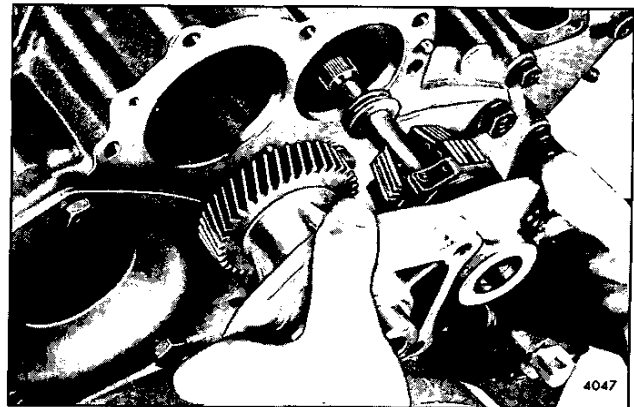

Fig. 3 – Removing/Installing Blower Drive Support (6V Engine)
10. Remove the two bolts and copper washers securing the blower drive support assembly. Then, withdraw the drive assembly until the splined end of the drive shaft is free from the drive plate (Fig. 3). Turn the drive assembly slightly so the serrated end of the governor weight shaft will pass around the governor operating fork. Remove the drive support from the engine.